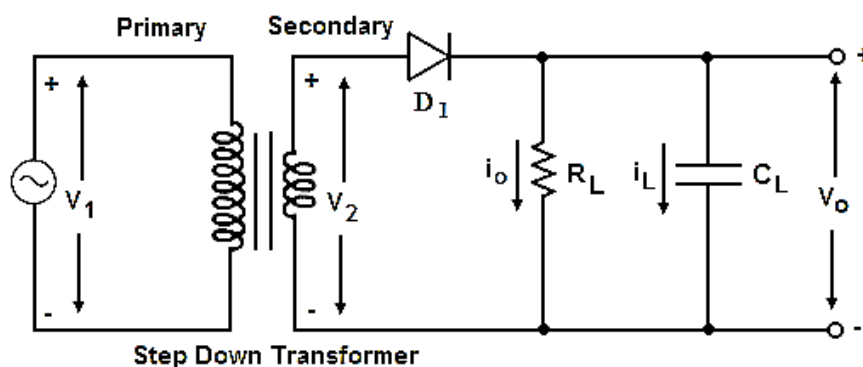

Fig.1.24: Half-wave rectifier with capacitor filter
- Fig.1.24 shows the half wave rectifier with capacitor filter.